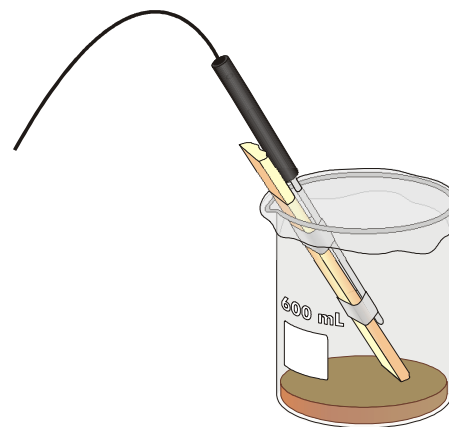

Figure 2
2. Tape Temperature Probe 1 and Temperature Probe 2 each to a ruler as shown in Figure 2. The probe tips should each be 3 cm from the ruler ends and the tape should not cover the probe tips.
- b. Place the Temperature Probes into the beakers as shown in Figure 2.